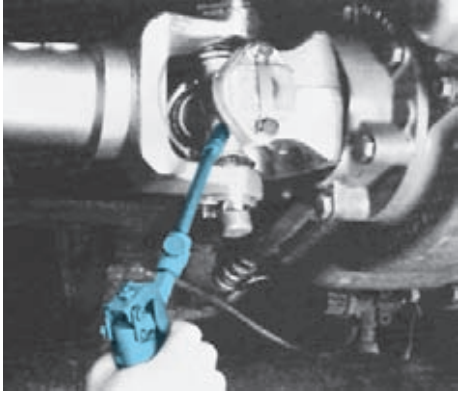

FIGURE 10-3 When lubricating a U-joint, grease is pumped into the cross until it comes out of the seal at each bearing cup. (Courtesy of Dana Corporation)
2. Attach a grease gun to the fitting, and add grease until you see clean grease flow from each seal (Figure 10-3).